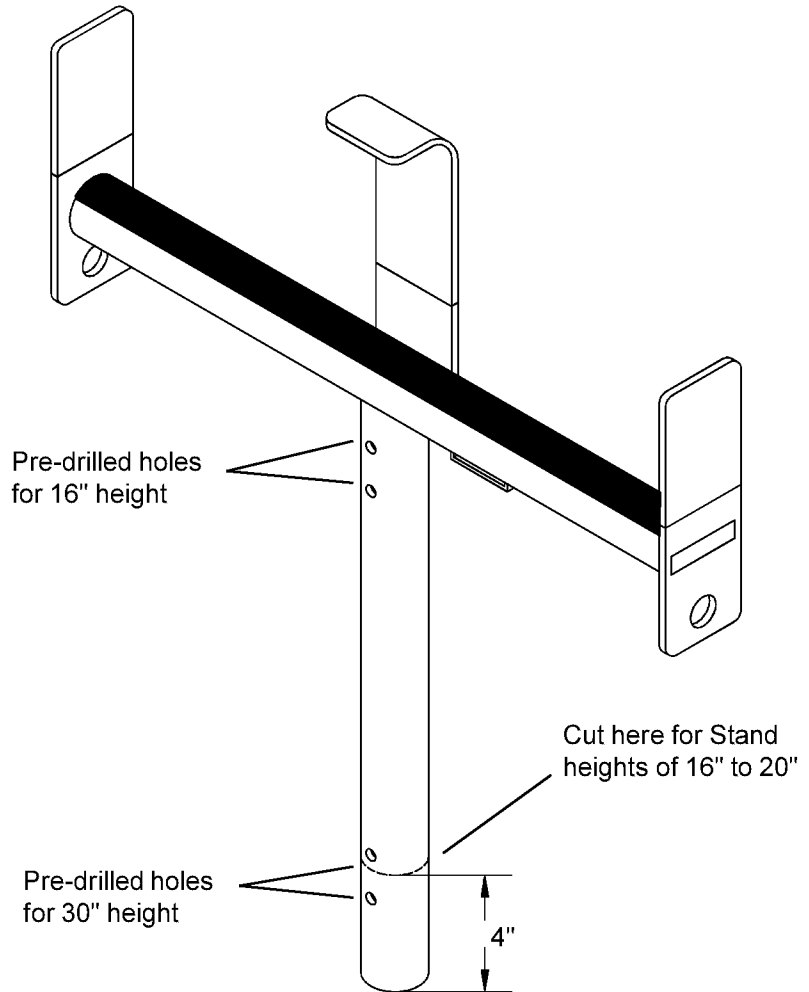

Figure 2. 16" & 30" height pre-drilled holes
1. Front Stand Height - The Front Stand is pre-drilled for 16" and 30" heights (See Figure 2.), and for mounting on driver or passenger sides of a vehicle. The height of the Stand is pre-drilled for heights of 16" & 30", but can be adjusted anywhere in-between by drilling additional holes.